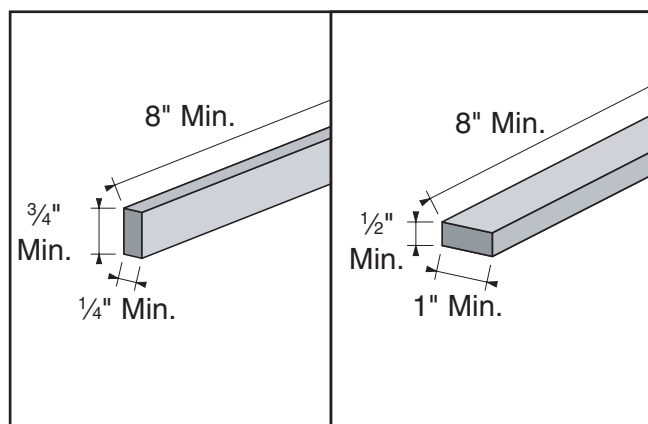

Figure 25. Minimum dimensions for edge jointing and surface planing (jointer).
- Make sure your workpiece exceeds the minimum dimension requirements (see Figures 25 & 26) before edge jointing or surface planing, or it may break or kick back during the operation!